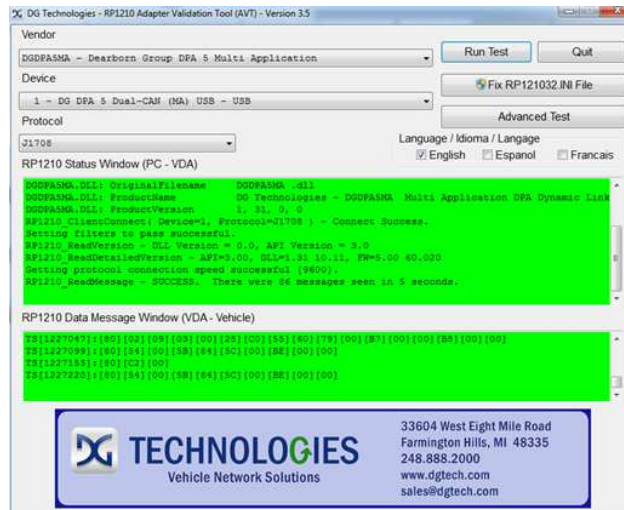

Figure 2.1: Adapter Validation Tool showing a successful connection between an ECM and the local computer.
- d) If the Adapter Validation Tool passes the test, then two windows will turn green as shown in Figure 2.1 on page 22. This means the ECM and the computer are connected through the RP1210 Device. If a test fails, review the suggestions output by the Adapter Validation Tool and try again. It may require shutting down the FLA, unplugging the USB, and disconnecting the FLA from power. Similarly, the PC may need to be rebooted.
7. Click on Advanced -> Settings and set the settings like the ones shown in Figure 2.1 on page 22.
- d) If the Adapter Validation Tool passes the test, then two windows will turn green as shown in Figure 2.1 on the next page. This means the ECM and the computer are connected through the RP1210 Device. If a test fails, review the suggestions output by the Adapter Validation Tool and try again. It may require shutting down the FLA, unplugging the USB, and disconnecting the FLA from power. Similarly, the PC may need to be rebooted.